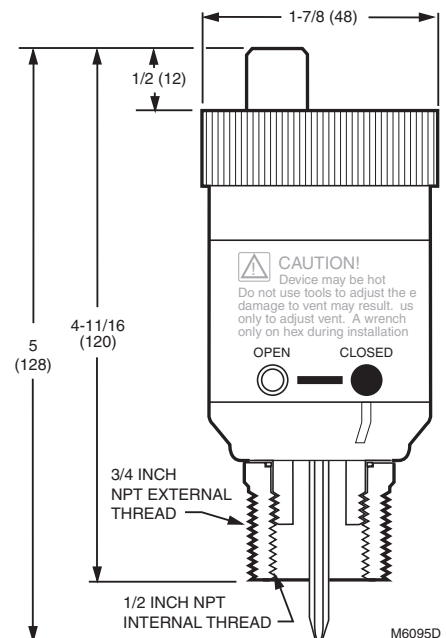

Fig. 1. EA79 dimensions in in. [mm].
**Dimensions:** Refer to Fig. 1